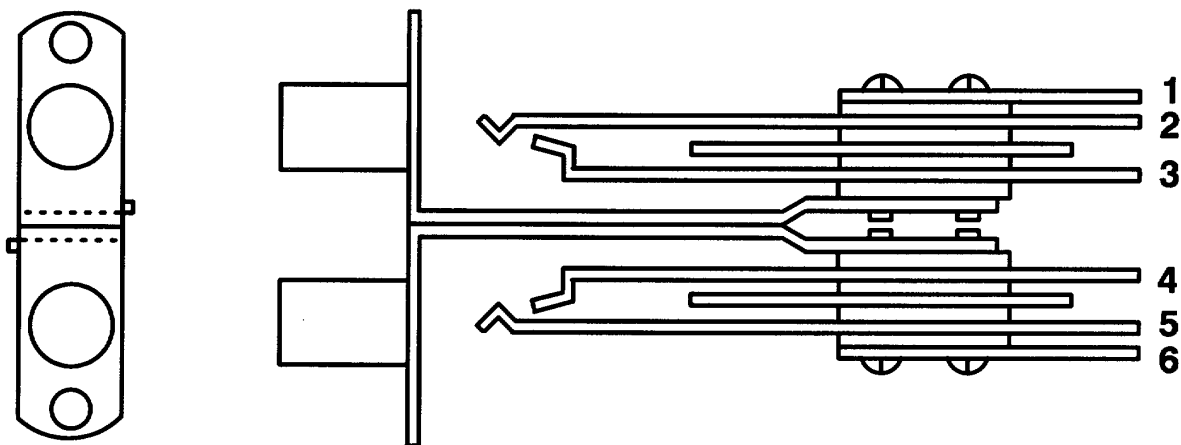

FIGURE 1
- REFER TO FIGURE 1 FOR PIN ASSIGNMENT OF BACK TO BACK VF JACKS. SOLDER ALL CONNECTIONS. SLEEVE ALL SOLDER CONNECTIONS WITH CLEAR SLEEVING (ITEM 22).